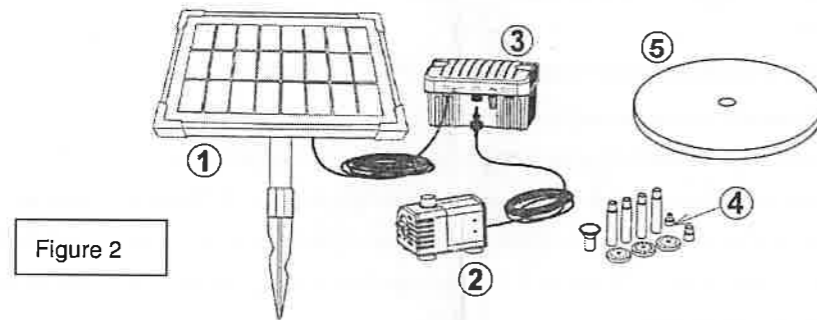

Figure 2
- 3) Connect the solar panel and the battery back-up through the "Y" connector, as shown in Figure 2 above, and then tighten the connection nut. Install the solar panel in a sunny place on the ground spikes, adjust the angle to face the solar panel toward the sun.